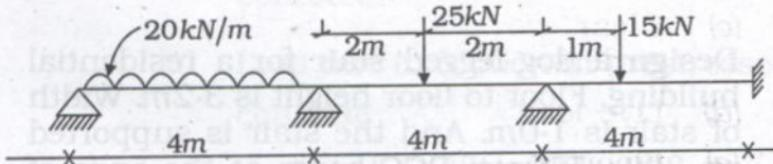

Fig. 1
- (b) Analyze the beam shown in Fig. 1 by three moment theorem. Also, draw the bending moment diagram and shear force diagram. 14